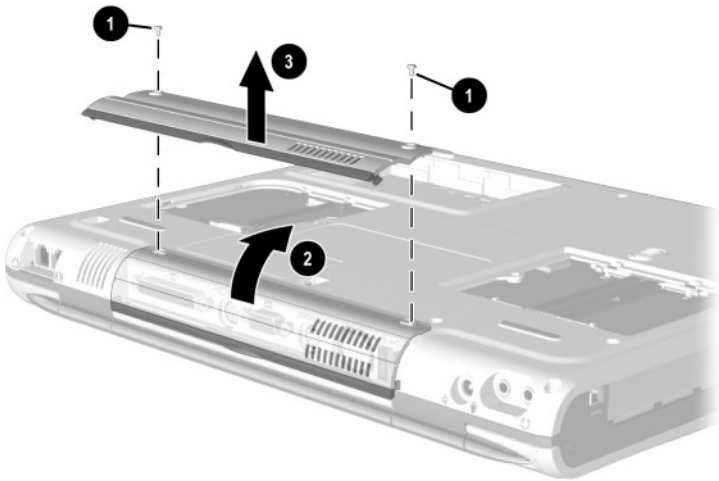

Figure 5-15. Removing the Connector Cover
3. Remove the two TM2.5 × 5.0 screws **1** that secure the connector cover to the base enclosure (Figure 5-15).